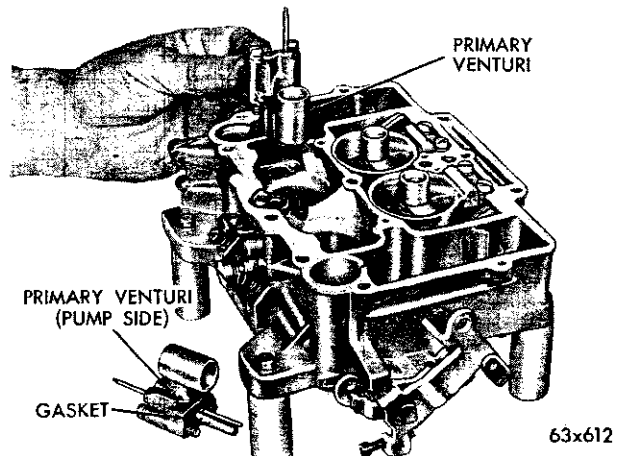

Fig. 65—Removing or Installing the Primary Venturi
(3) Remove the screws that attach the primary venturi to the main body. (These venturi are not interchangeable side for side, and it is suggested that the pump side venturi be marked for identification). Remove the venturi, as shown in Figure 65. Discard the gaskets. (The pump side venturi is numbered 687. The opposite one, numbered 686).
(8) Place new primary venturi gaskets in position, then install the primary venturi. (Refer to Fig. 65). Install screws and tighten securely. Be sure each is located in its original place.